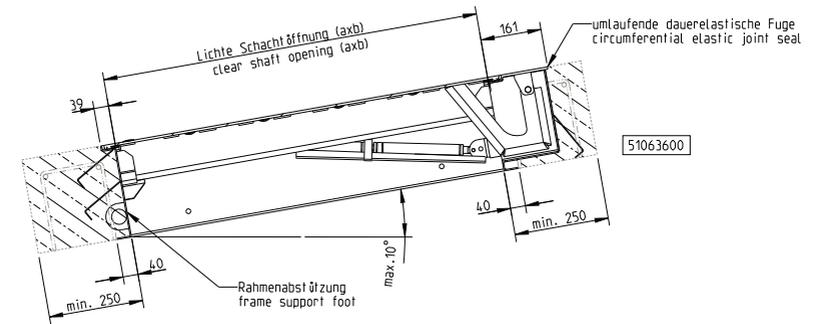

Fig. 3 – SD7 Inclined installation
2. The manhole cover is suitable to be installed with an inclination of **10% slope maximum**. Consider the position of the hinges as shown in the attached drawing! (Fig. 3)